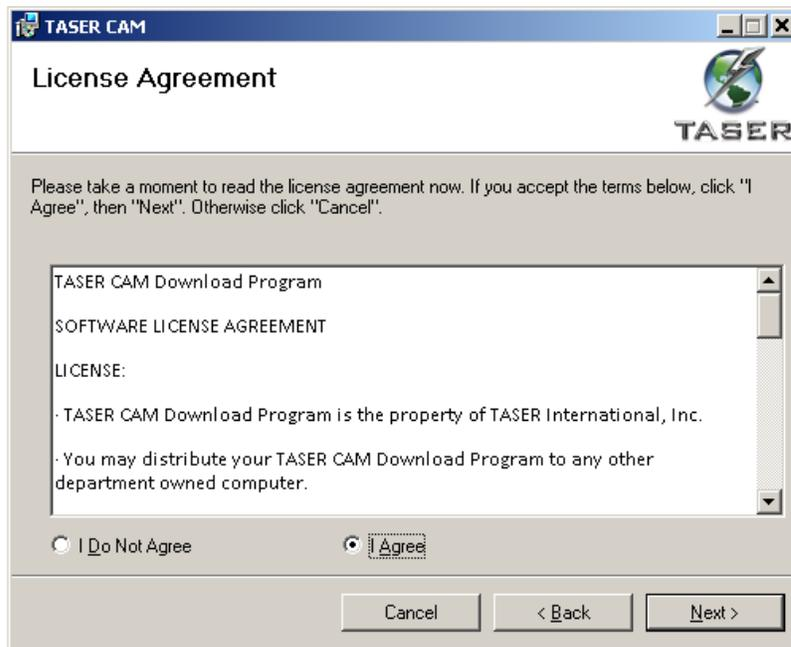

Figure 2
4. Click **Next** to begin the installation. The license agreement displays (Figure 2).